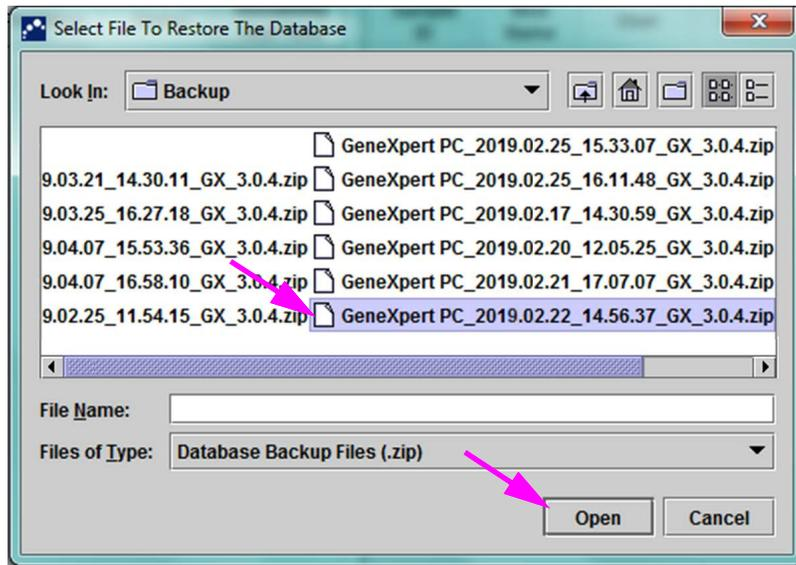

Figure 5-80. Select File to Restore the Database Screen, with Filename
Click **Cancel** to not back up the database and proceed directly to the Select File To Restore the Database screen (see Figure 5-80).
- Click **OK**. The Select File to Restore the Database screen appears. See Figure 5-80.